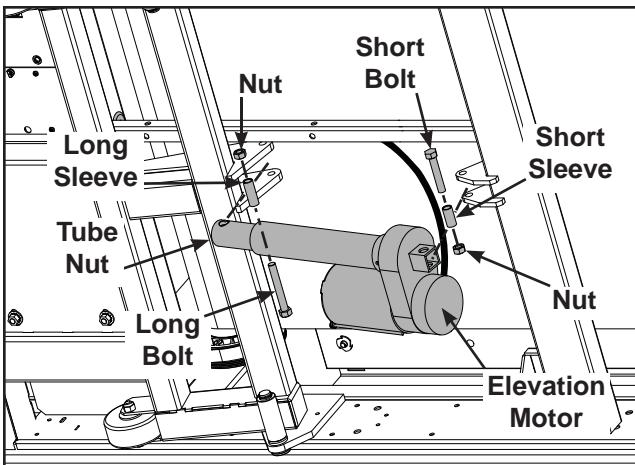

Figure 3
- C. Using a 9/16" open end wrench and a 9/16" Socket wrench, remove the two bolts, nuts and sleeves on the elevation motor (one at the top and one at the bottom). See Figure 3.
- Carefully place the elevation motor in position on the treadmill. See Figure 3.
- Slide both bolts and sleeves into the slots and attach the nuts as shown in Figure 3.
- Route the elevation motor cable along the frame and through the grommet. See Figure 3.
- Tie the elevation cable with wire ties (B) to the frame. See Figure 3.
- Using the side cutters, remove excess material from wire ties (B).